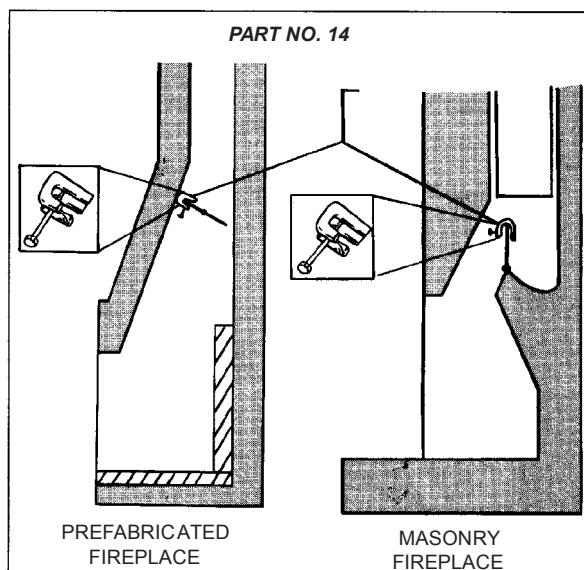

Figure 2. Damper stop clamp
- B. Open fireplace damper fully and install Damper Stop Clamp with 1/4x2" set screw (Part 14#). This clamp is designed to allow any pilot combustion by-products to vent (See **Fig. 2**) Should the Damper Stop Clamp supplied not fit, a permanent damper stop clamp must be installed that will keep the damper open at a distance of not less than 1 1/2".